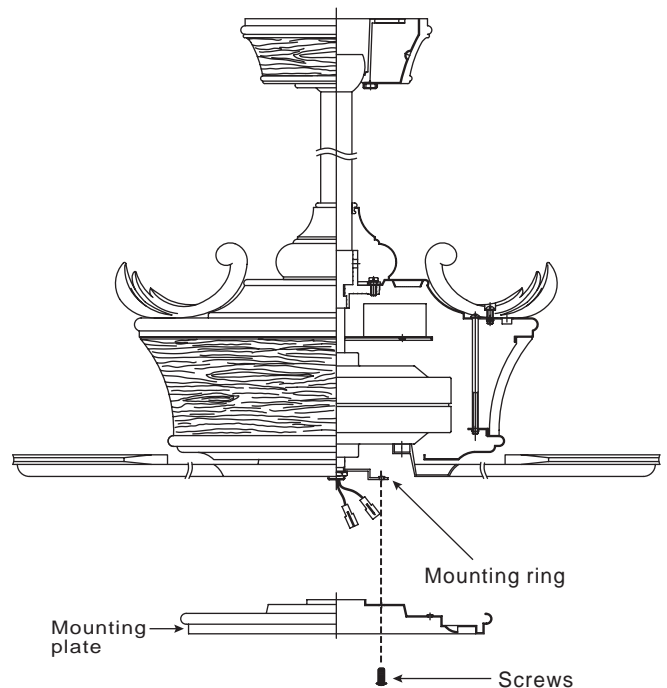

Figure 15
2. Place the key holes on the mounting plate over the 2 screws previously loosened from the mounting ring, turn mounting plate until it locks in place at the narrow section of the key holes. Secure by tightening the 2 screws previously loosened and the one previously removed. (Fig. 15)